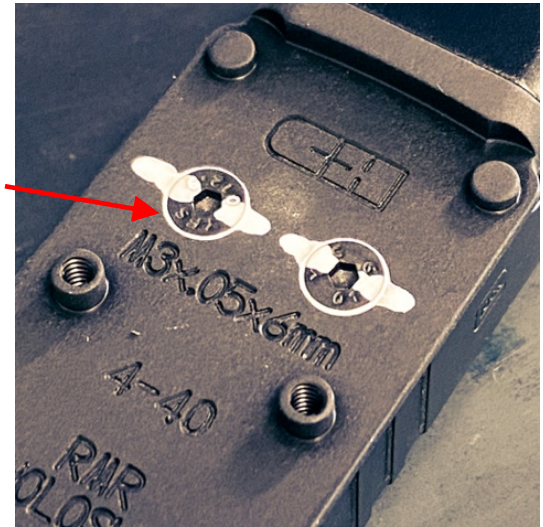

Figure 4
- Using a Sharpie oil based fine paint marker, apply a lateral witness mark across each screw head. Ensure a small amount of oil based paint flows into the ring recess between the screw head and the mounting surface. Allow witness marks to dry for at least five minutes. Figure 4